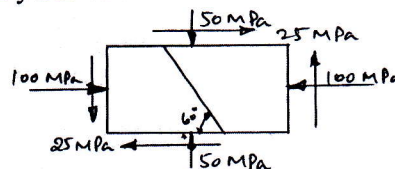

Fig.Q3(b)
- b. A machine component is subjected to the stress as shown in Fig.Q3(b). Find the normal and shearing stresses on the section AB inclined at an angle of 60° with $x - x$ axis. Also find the resultant stress on the section by Mohr's circle.